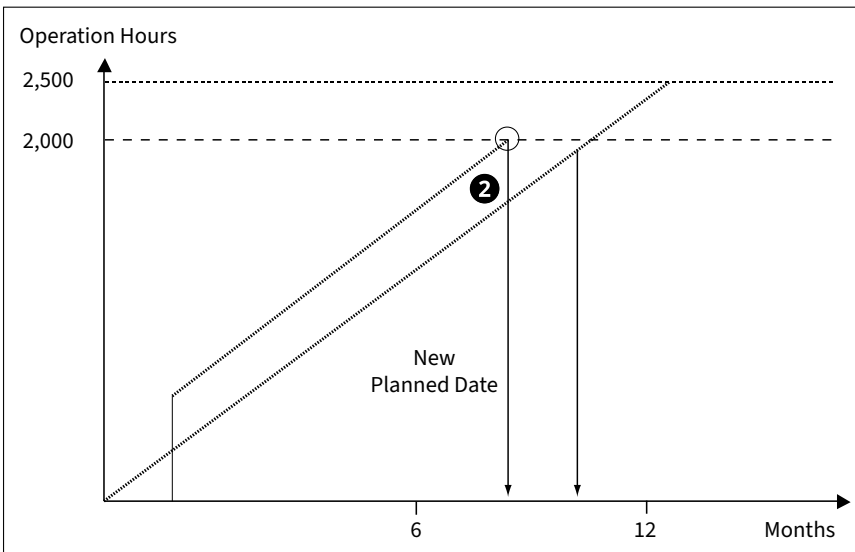

Figure 5.49: Scheduling Based on Counter Reading
The geometric solution is as follows (see Figure 5.49): An equivalent to the annual estimate is drawn from the measurement document, and the intersection with the maintenance cycle determines the new maintenance date ②.